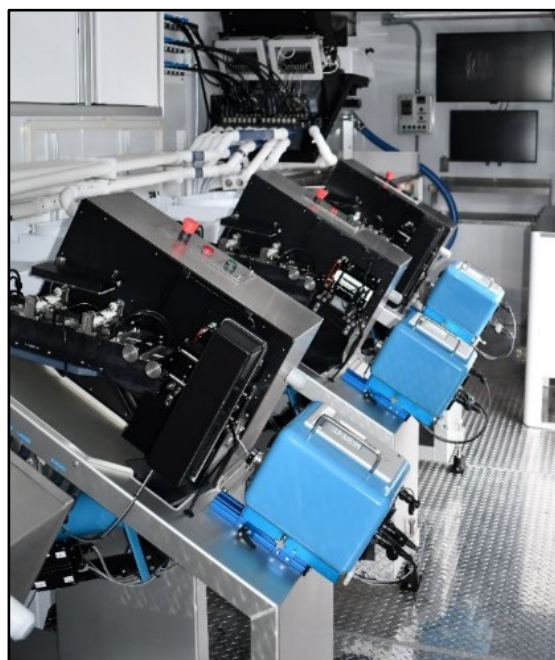

Figure 1: MKIV with QCD for manual tagging (left) and installed in AutoFish System (right) for automated tagging.
2. MKIV Tag Injector with a Quality Control Device (QCD), Figure 1.
3. MKIV Tag Injector in an AutoFish trailer (Figure 1) - refer to the AutoFish SCT Operator Manual).